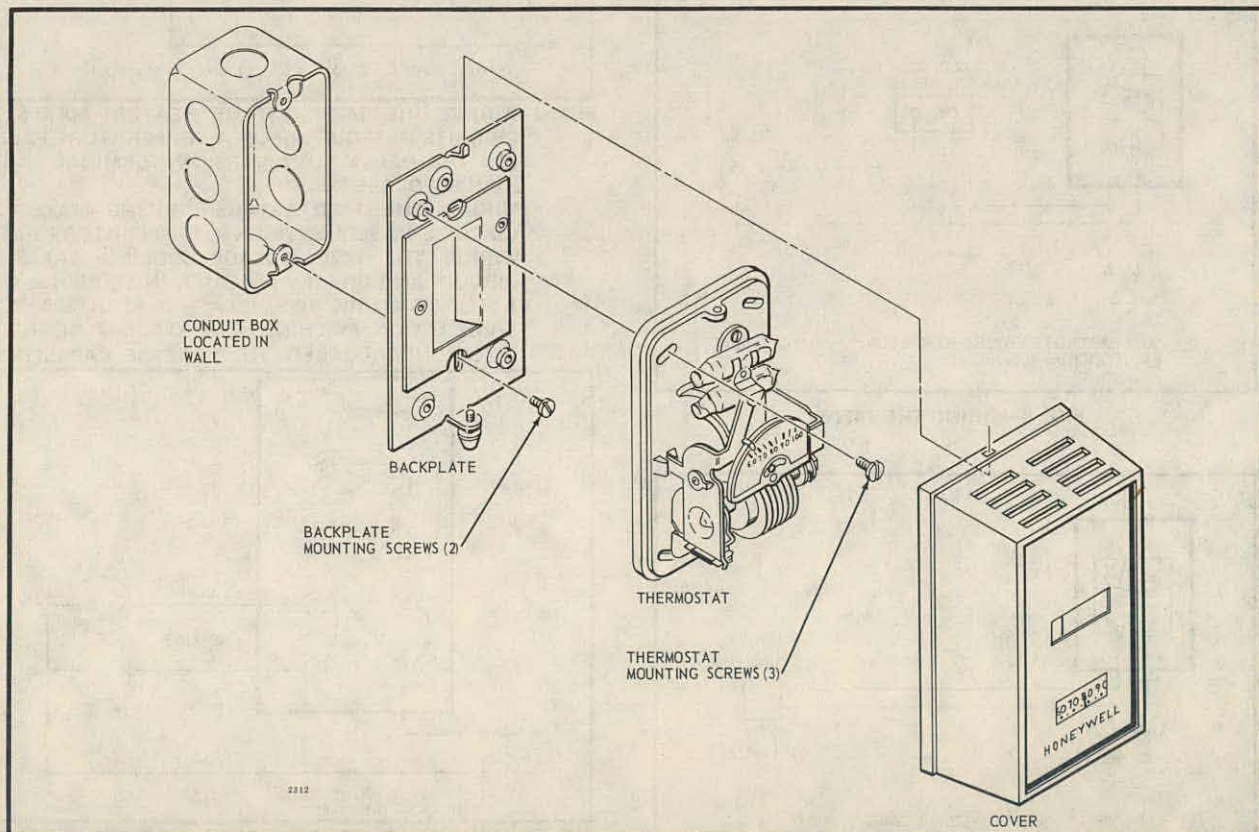

FIG. 3—MOUNTING THE T42 ON VERTICAL OUTLET BOX. FOLLOW INSTRUCTION SHEET PACKED WITH BAG ASSEMBLY WHEN MOUNTING THE T42 ON A HORIZONTAL OUTLET BOX.
2. Fasten the backplate on the switch box as shown in Fig. 3.